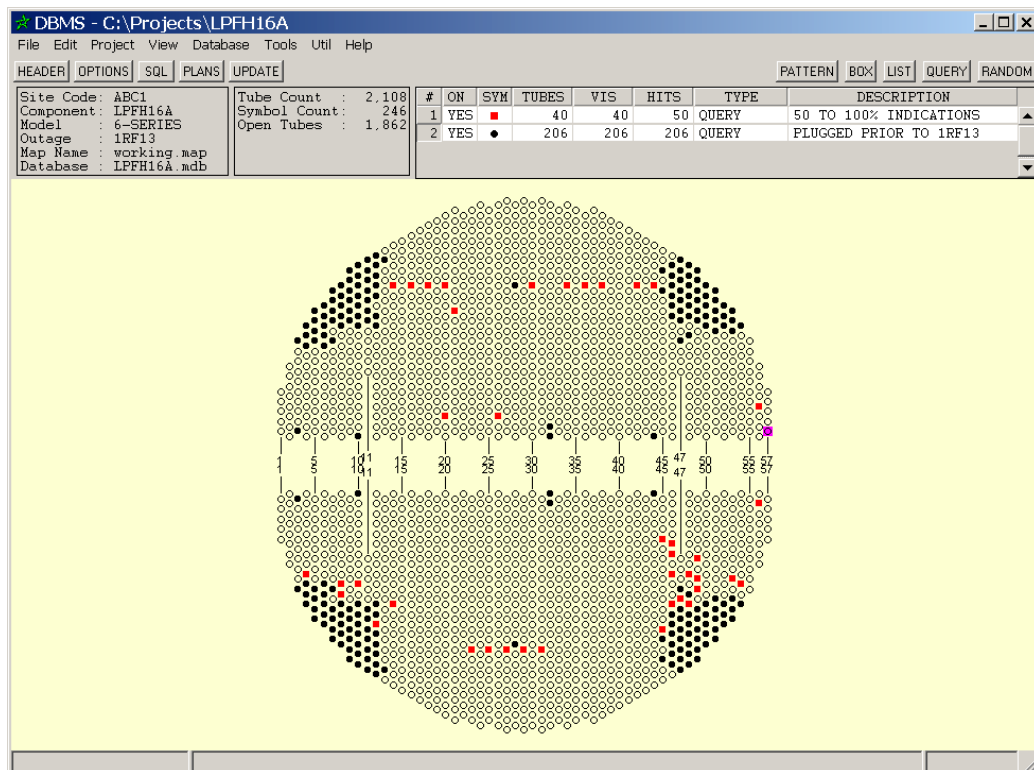

Figure 16-7. Moving and Rearranging Legend Entries
STEP 1: Ctrl+click and drag the entry number in the # column of the **PLUGGED PRIOR TO 1RF13** entry (should be entry #1) to just below the **50 TO 100% INDICATIONS** entry, and then release. The **PLUGGED PRIOR TO 1RF13** entry should now be located below the **50 TO 100% INDICATIONS** entry as shown in Figure 16-7.